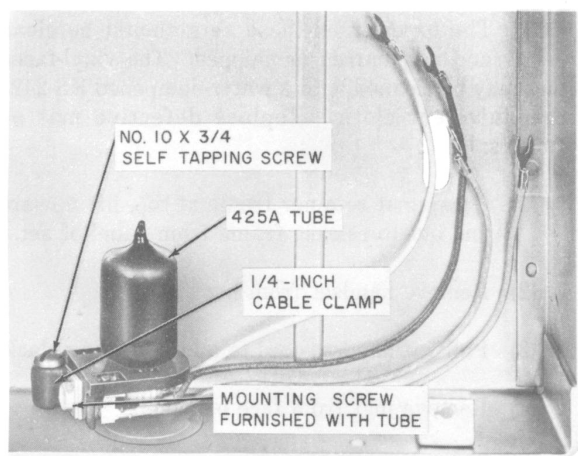

Fig. 3—Installation of Cold-Cathode Tube in Apparatus Box
3.05 To install in an apparatus box, obtain a 1/4-inch Tinnerman clamp and a No. 10 by 3/4-inch long self-tapping screw. Secure the clamp to the tube base using the mounting screw furnished with the tube. Insert the self-tapping screw through the cable clamp loop and fasten tube to the apparatus box using an existing nailing hole or a hole drilled at required location (Fig. 3).